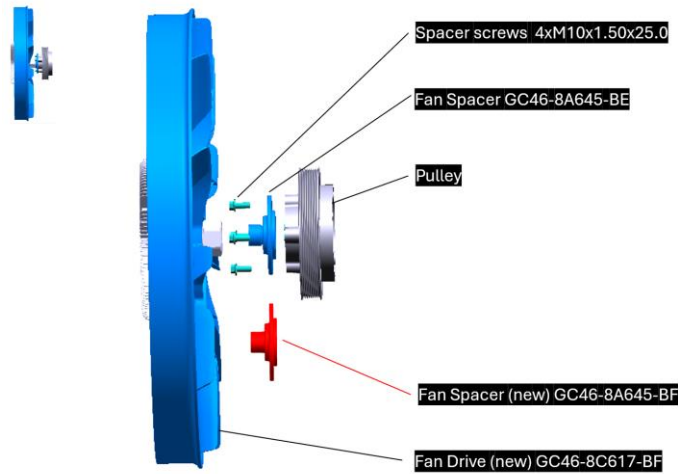
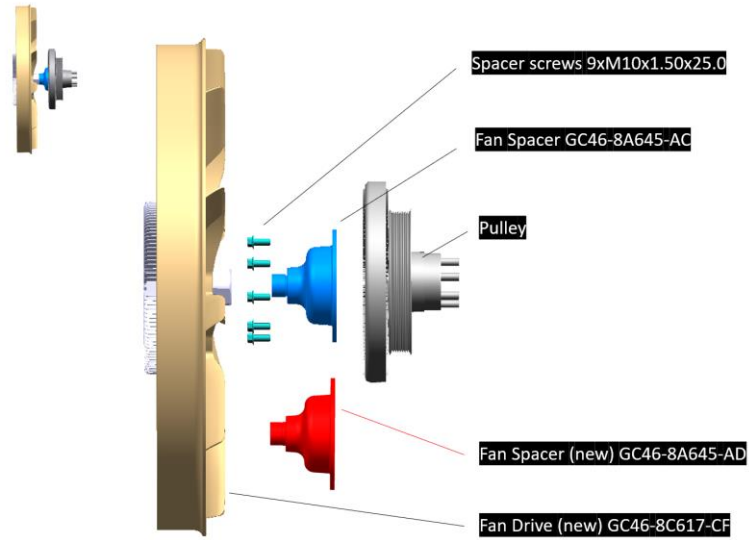

Figure 3: 12.7L Ecotorq Engine; Engine Cooling Fan, Fan Spacer and Pulley Parts
Figure 4: 9L Ecotorq Engine; Engine Cooling Fan, Fan Spacer and Pulley Parts
Figure 3 ve Figure 4, describe the radiator fan and assembly parts of the cooling system on vehicles with 12.7L and 9L engines. Additionally, the parts marked as red in the figures are new level fan spacer parts.
- 1) When the cabin lifted on the vehicle, engine cooling fan assembly must be inspected. Damages on the fan propeller or six fan screws must be checked on the assembly. (Figure4)